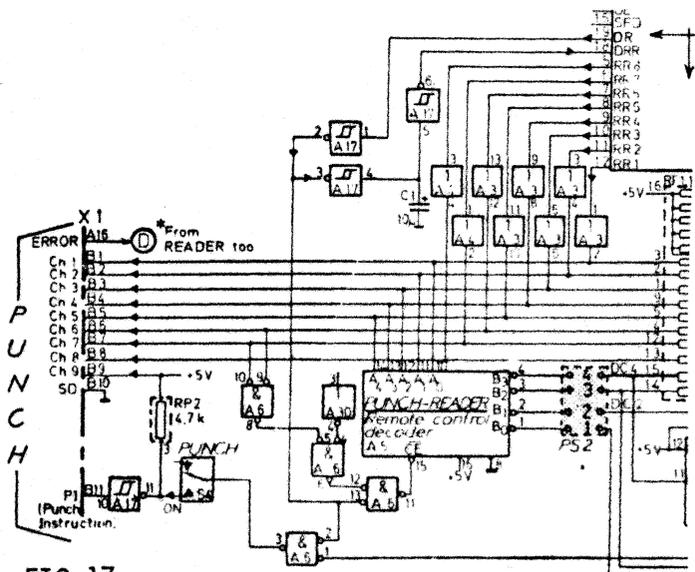

FIG 17
5.3 REMOTE CONTROL, PUNCH/READER See Fig. 17